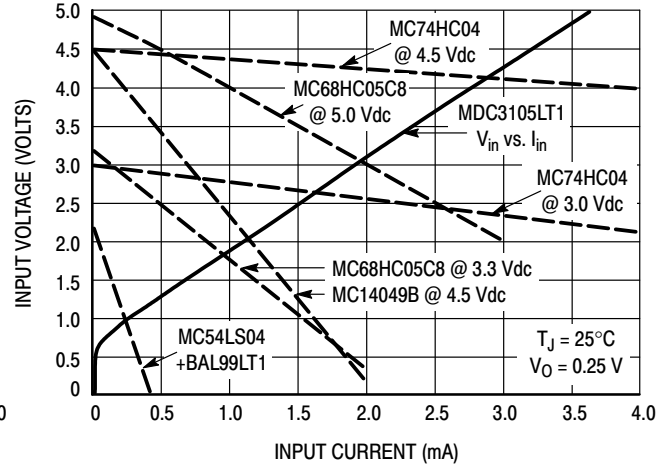

Figure 3. Input V-I Requirement Compared to Possible Source Logic Outputs
6. For levels of input current above 100 μA , enter Figure 3 using that max input current and determine the input voltage required to drive the MDC3105 from the solid V_{in} versus I_{in} line. Select a suitable drive source family from those whose dotted lines cross the solid input characteristic line to the right of the I_{in} , V_{in} point.